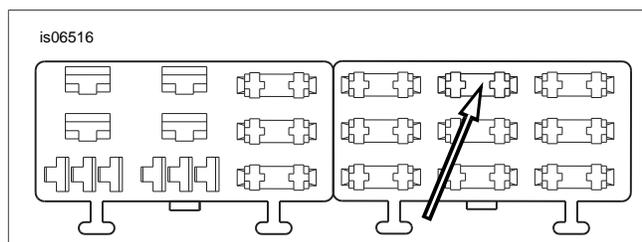

Figure 19. "P&A IGN" Fuse Block Cavity (2004-2010 Softail)
4. See Figure 19. Locate the fuse cavity (1) indicated as "P&A IGN" on the fuse block cover in the right fuse block. Insert the terminal on the orange/white adapter wire until it stops. Refer to a nearby factory installed terminal for comparison to verify proper orientation and depth.